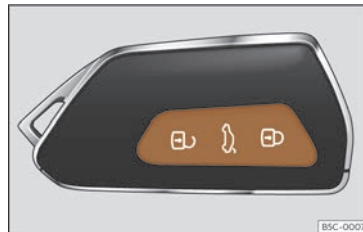

Fig. 62 Remote control key: buttons.
- Lock: press the  button >>> **Fig. 62**.